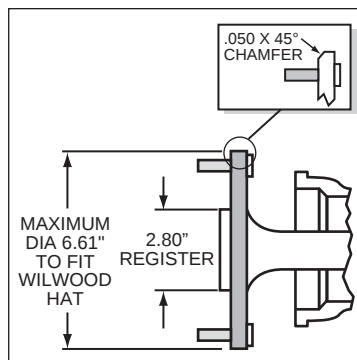

Figure 3. Axle Flange Maximum Dimension
- Axle center register diameter is 2.80", Figure 3. This kit uses Wilwood's removable center register adapters. Rotors can either be centered on the axle register, i.e. *register-centric* or centered on the wheel studs, i.e. *stud-centric*. Due to variations in wheel stud final diameters, *register-centric* centering can be a more accurate method of centering the rotor to the axle. Wilwood offers various diameter adapters for purchase in addition to the ones supplied in this kit, see Table 1.
• Maximum axle flange diameter must be no larger than 6.61" w/.050" x 45° chamfer, Figure 3.